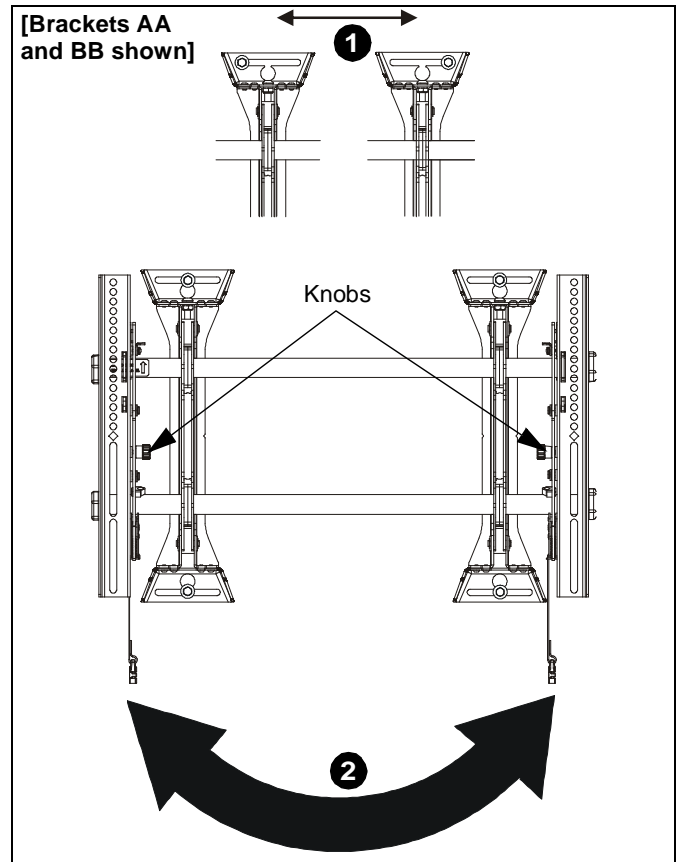

**Figure 6**
**NOTE:** The nesting spacers (MA) may be used separately, or put two together in different configurations to create different size spacers. (See Figure 6)